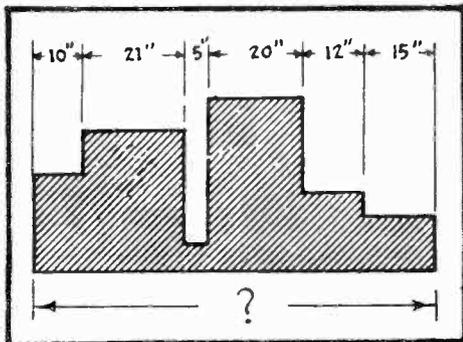

FIG. 1
THE FIRST ARITHMETICAL PROCESS, WHICH WE SHALL CONSIDER, IS ADDITION. TO ILLUSTRATE THIS, LET US LOOK AT FIG. 1. HERE WE HAVE A CASTING, WHOSE PARTIAL DIMENSIONS ARE ALL MARKED ON THE DRAWING. THE PROBLEM NOW IS TO DETERMINE THE TOTAL WIDTH OF THIS CASTING AND SO WE RESORT TO THE PROCESS OF ADDITION. THAT IS, WE MUST ADD TOGETHER 10 INCHES, 21 INCHES, 5 INCHES, 20 INCHES, 12 INCHES AND 15 INCHES. TO DO THIS, WE ARRANGE THESE FIGURES IN A VERTICAL COLUMN AS AT (A) IN FIG. 2 AND DRAW A HORIZONTAL LINE BELOW THE COLUMN.
THE ANSWER OBTAINED FROM THE PROCESS OF ADDITION IS CALLED THE TOTAL OR SUM AND SINCE THE NUMBERS JUST ADDED REPRESENT INCHES, OUR ANSWER WILL ALSO BE EXPRESSED INCHES. THAT IS, THE TOTAL WIDTH OF THE CASTING IN FIG. 1 IS 83 INCHES. REMEMBER, THAT YOU CAN ONLY ADD UNITS OF THE SAME KIND, THAT IS TO SAY, YOU CANNOT ADD INCHES TO FEET AND OBTAIN A CORRECT ANSWER. THE INCHES WOULD FIRST HAVE TO BE CHANGED TO FEET OR ELSE THE FEET TO INCHES.